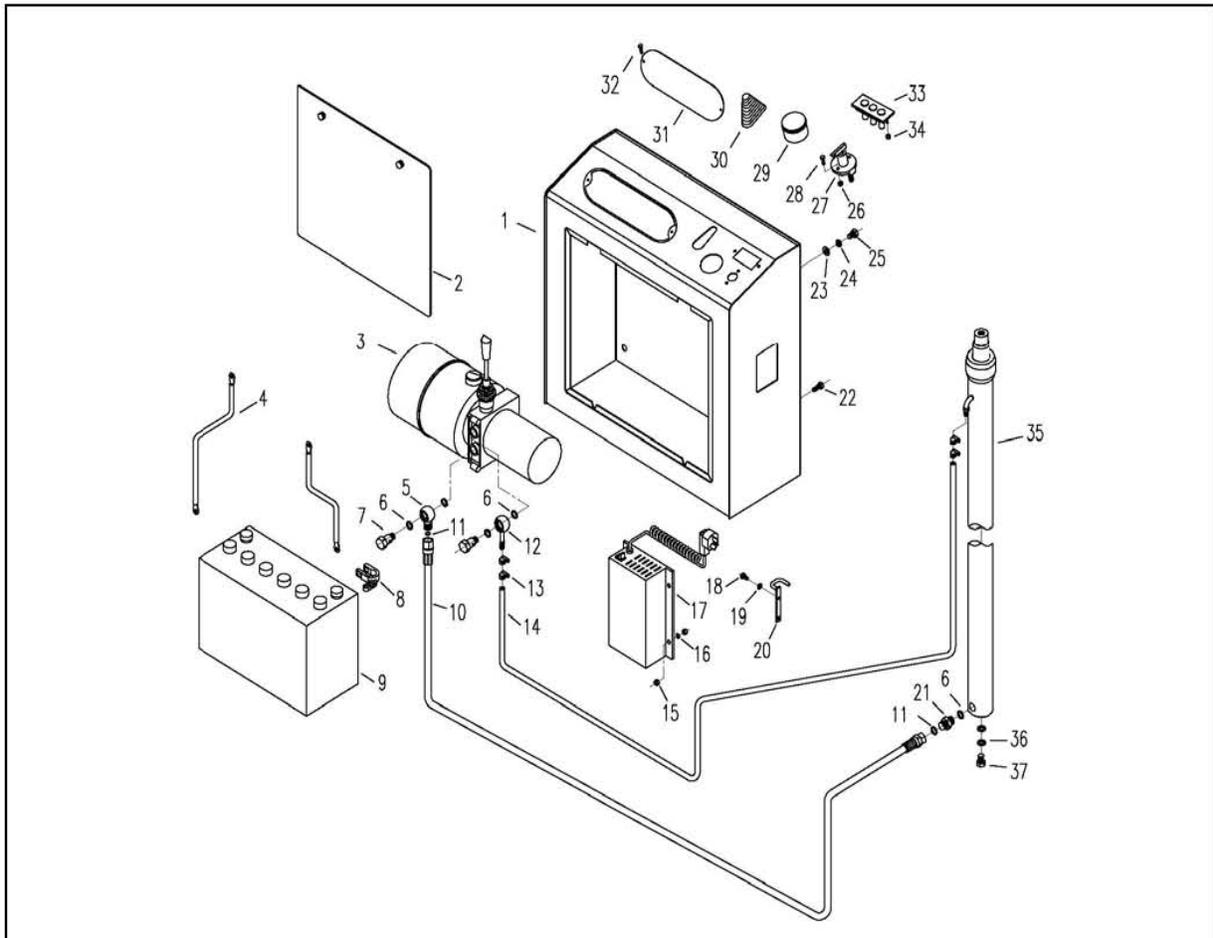

Figure 6-1. Electrical and Hydraulic System
2. Turn the two thumb screws on cover (2, Figure 6-1) and remove the cover.
4. Free the rubber boot for the control lever and push it down into box (1).
5. Remove bolt (7, Figure 6-1) and washers (6) and disconnect pressure hose (10) from pump assembly (3).
6. Remove bolt (7, Figure 6-1) and washers (6) and disconnect fitting (12) from pump assembly (3).
7. Label, then disconnect cables and wires from pump assembly (3).
8. Remove two bolts (25), lock washers (24) and flat washers (23). Lower pump assembly (3) out of truck.
1. While supporting the pump assembly (3, Figure 6-1) install screws (25), lock washers (24) and flat washers (23).
2. Reconnect fitting (12) to pump assembly (3) with bolt (7) and washer (6).
3. Reconnect pressure hose (14) to pump assembly (3) with bolt (7) and washer (6).
8. Install cover (2) and secure with the two thumb screws.